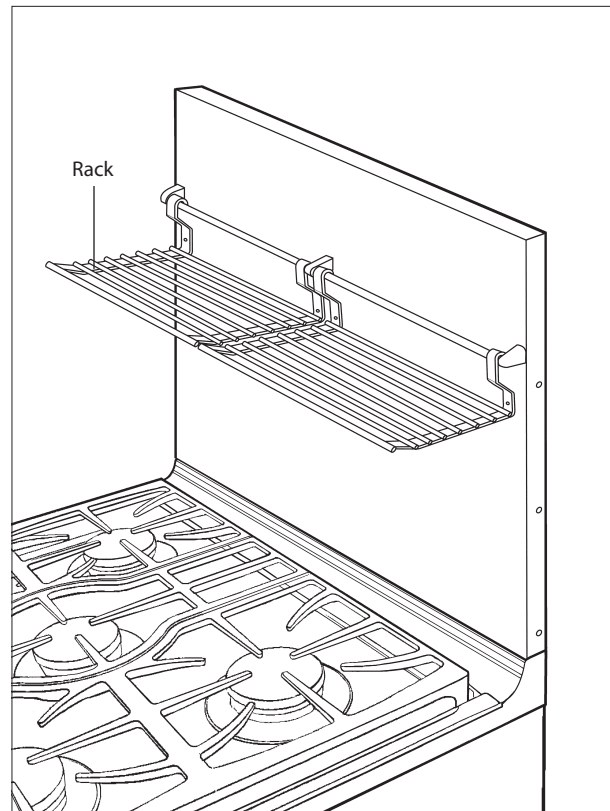

Fig.06
6. Attach racks to rod (fig. 06, page 4). The maximum weight placed on each rack should be 10 lbs.